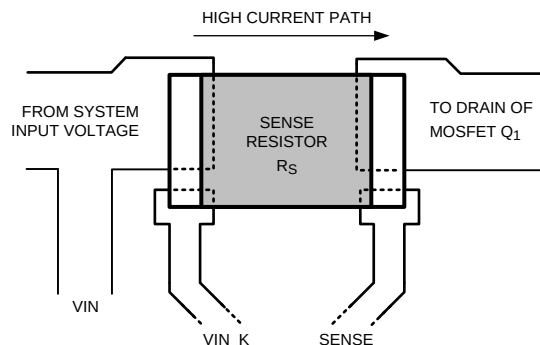

**Figure 52. Sense Resistor Connections**
5. The sense resistor ( $R_{SNS}$ ) should be placed close to the LM5066I. A trace should connect the VIN pad and  $Q_1$  pad of the sense resistor to VIN\_K and SENSE pins, respectively. Connect  $R_{SNS}$  using the Kelvin techniques as shown in Figure 52.